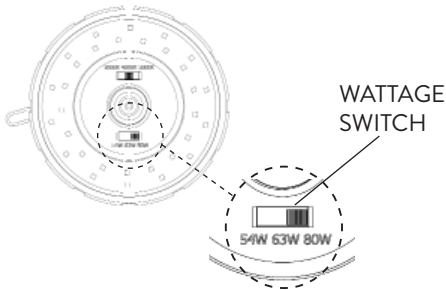
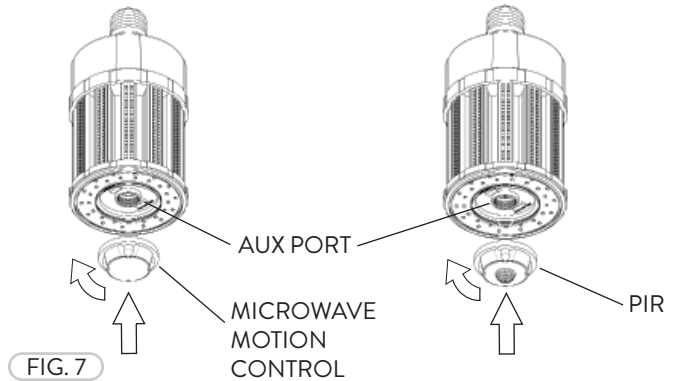

FIG. 5
FIG. 7
- Sensor Segmented Dimming is available when using either Optional Sensor. Prior to installing the PIR (Passive Infrared) or Microwave Motion Sensor, move the Wattage Switch to the fixture's highest wattage (Refer to Fig. 5). Install the Microwave Motion Sensor or the PIR by screwing into the AUX Port and tighten carefully (Fig. 7).